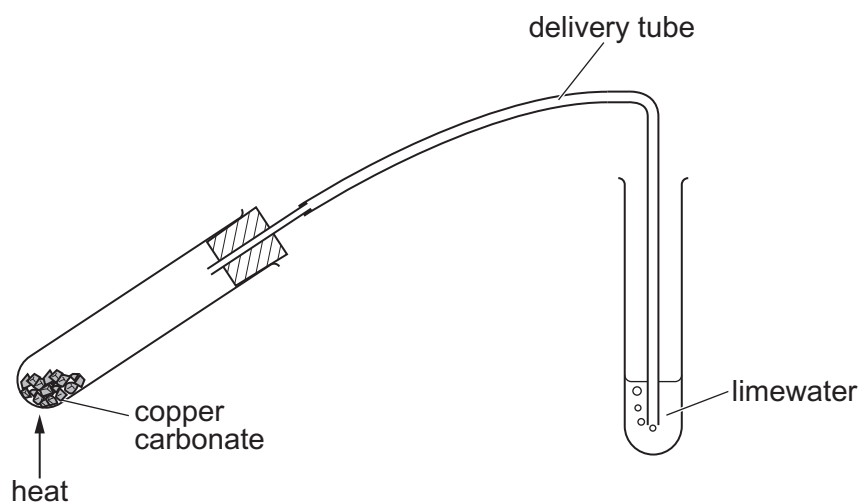

Fig. 2.1
- Place the delivery tube into the limewater as shown in Fig. 2.1.